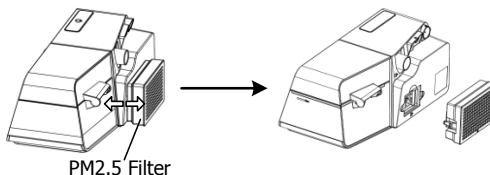

Fig. 18-6
(3) Change the air filter and filter cap to the PM2.5 filter, as shown in Fig. 18-6.